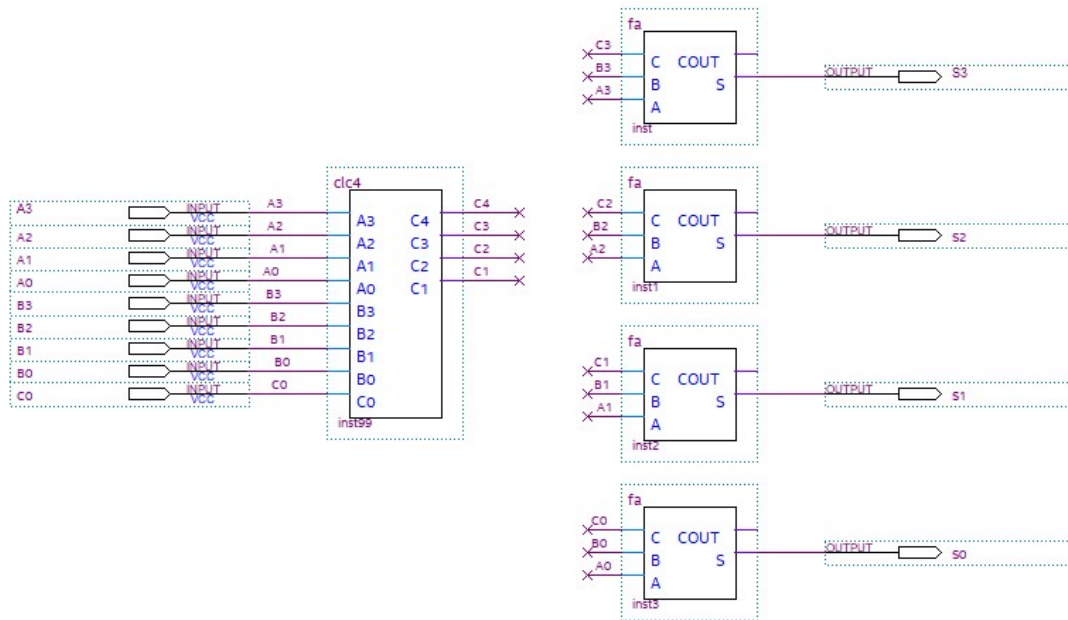

Figure 2: A 4-bit carry look-ahead adder circuit
- c. **Use** the block diagram in **Figure 2** to guide your work.